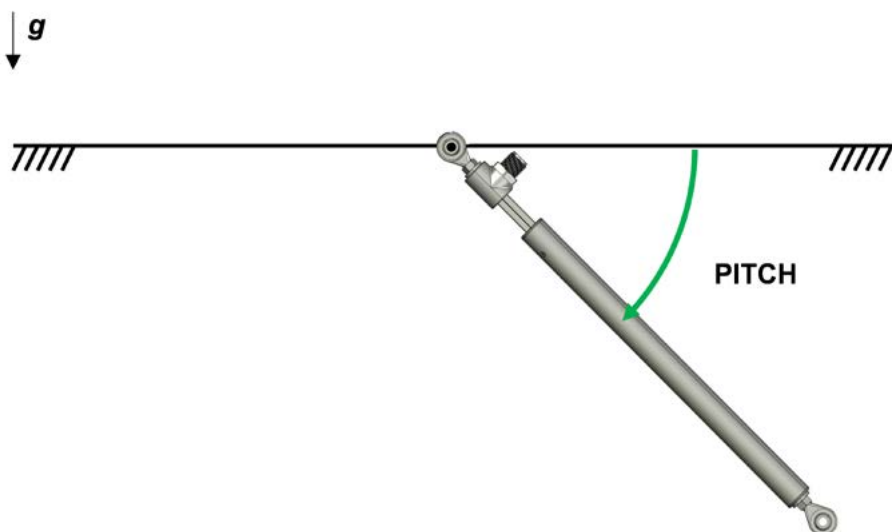

Figure 14. Pitch at 45 deg
- **PITCH:** Figure 14 and Trace 4 show the mechanical position of the sensor and PDO1, which contains the associated pitch measurement, respectively.